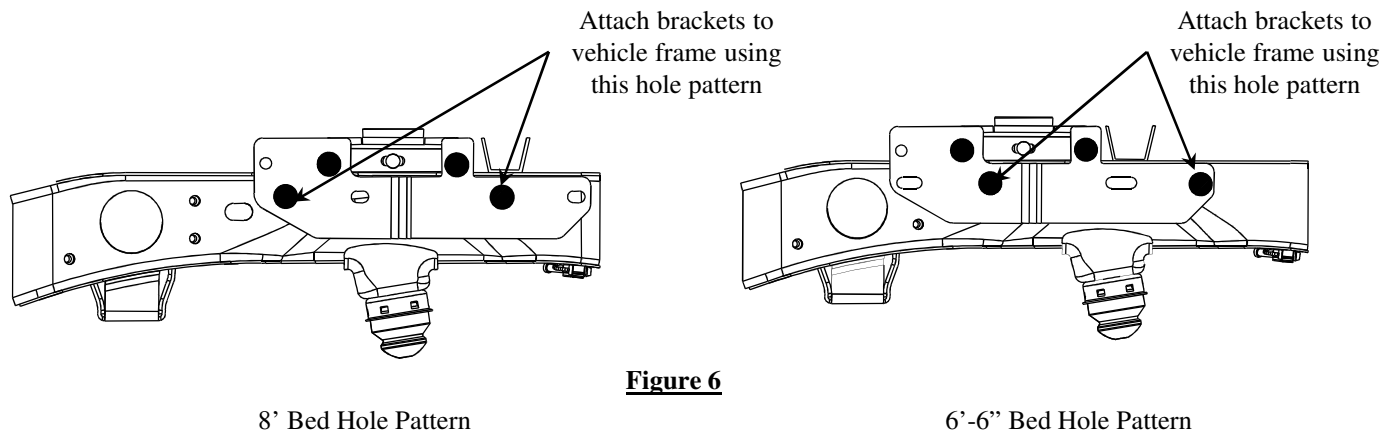

Figure 6
See Figure 6 for 6'-6" bed installation
10. Position the hitch frame brackets using the hole patterns shown in figure 6 and loosely install the 5/8 conical toothed washers and 5/8 hex nuts.